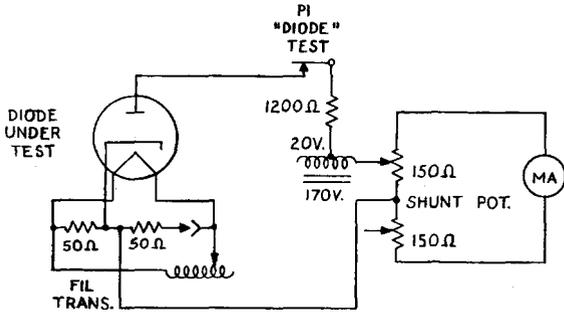

Fig. 4 - Diode Test Circuit
2.23 When testing the diode section of a multi-purpose tube, or small hot cathode diodes, the circuit (Fig. 4) is the same as that described in Paragraph 2.22 except that the ac potential is decreased from 35 to about 15 volts, and the current limiting resistance is changed to 1200 ohms. Only one plate of the diode is tested at a time. Micromhos meter readings are observed relative to the RECTIFIERS & DIODES OK index mark, readings to the right of the line indicating a satisfactory condition.